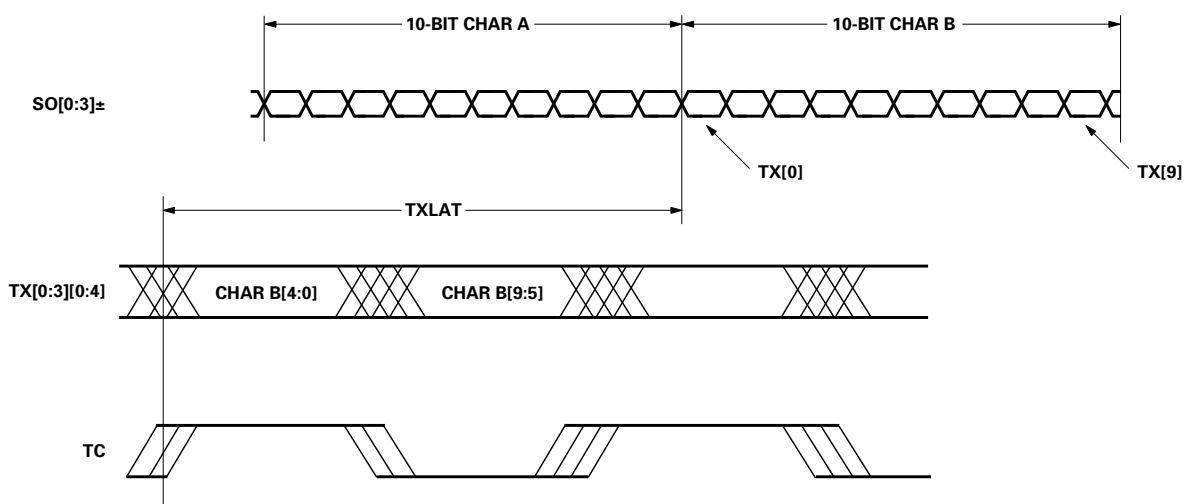

Figure 4. Transmitter section latency. TX[0] is first on serial wire.
1. The transmitter latency, as shown in Figure 4, is defined as the time between the leading edge of the first half of a parallel 10-bit word and the leading edge of the first transmitted serial output bit of that 10-bit word.